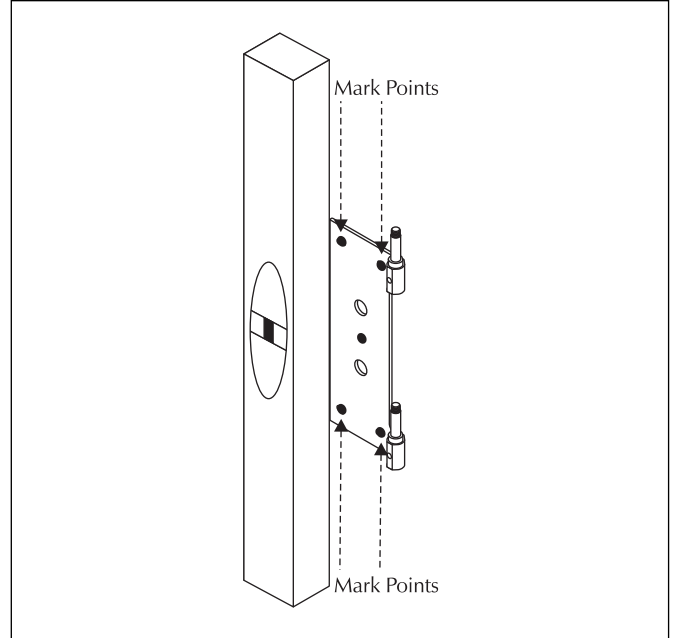

Figure 5. Step 4
- 4 Using a level, square the wall bracket and hold it flush against the wall with the wall bracket's center hole over the center point you just marked. The cylindrical hinges on the wall bracket should point away from the wall and the hinge pins should point upwards towards the ceiling. Mark 4 points (2 each at the top and bottom of the bracket) inside of the wall bracket's arc shaped cut outs (see figure 5).